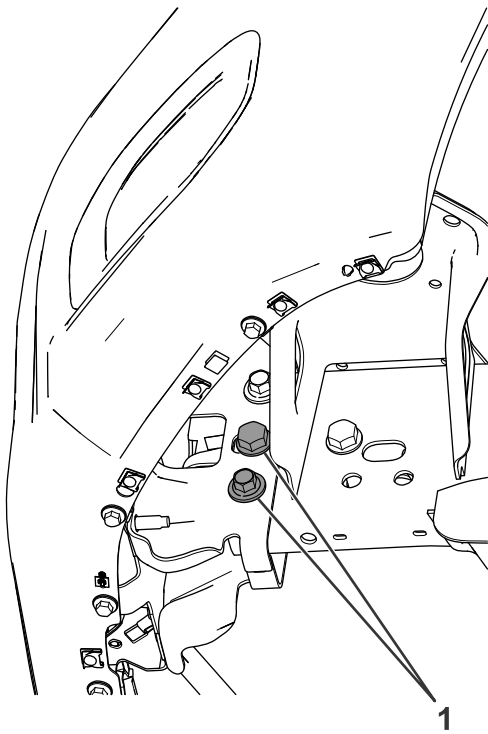

Figure 2
3. Remove the existing fasteners indicated in Figure 2.